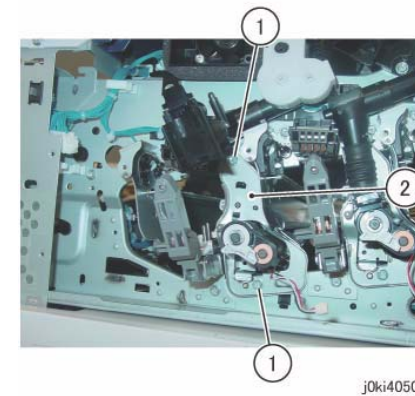

Figure 11 Remove the Dev. Plate Assembly
14. Remove the Dev. Plate Assembly. (Figure 11)